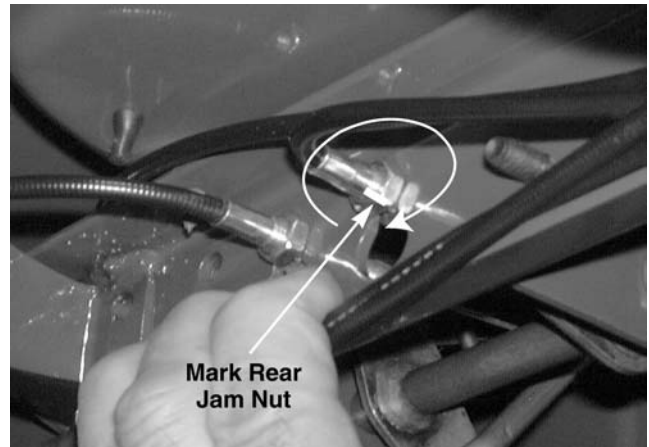

Figure 8-20.
7. By hand, loosen the front jam nut several full turns. See Figure 8-20.